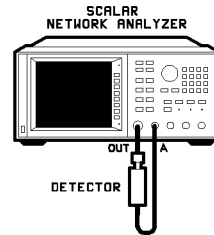

Figure 4-4. Dynamic Power Accuracy Test Setup
1. Connect the equipment as shown in Figure 4-4. If the sweeper is on, turn it off.